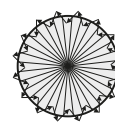

FIG. 15
4.1.4 Walk from outside across to the detection pattern until red LED and load turn on for approx. 2sec, then turn off, the next trigger should be 2sec interval (See FIG. 15).